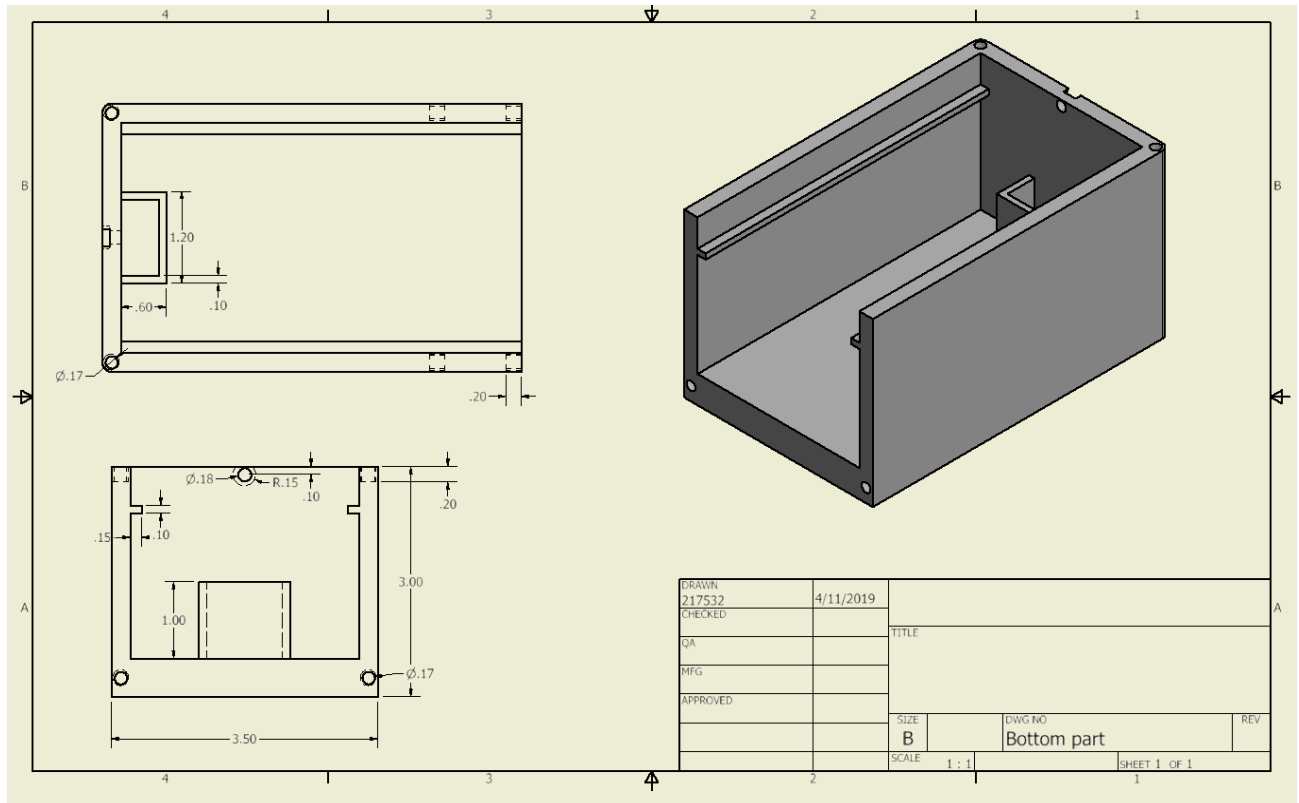

Figure 1-8
9. Design the following schematics shown in Figures 1-8 and 1-9 on Inventor.